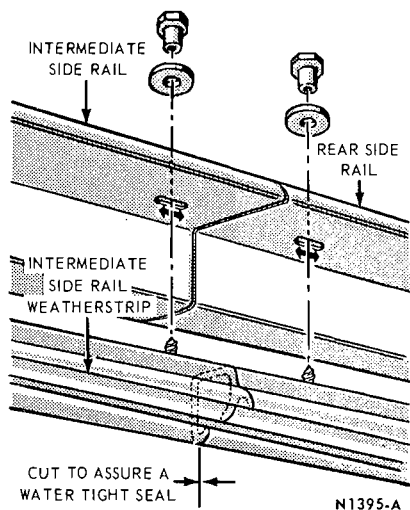

FIG. 2—Side Rail Weatherstrip Adjustment—Mustang
obtain a water tight seal at point X (Fig. 2).
3. Adjust the rear side rail weatherstrip to provide a water tight seal at the joint (Fig. 2), and tighten the weatherstrip retaining nuts.